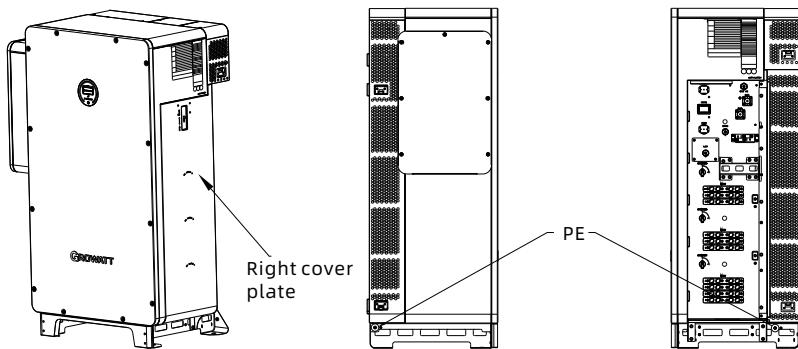

Fig 6.1 Ground points
4. The position of the ground points of the WIT 50-100K-US Storage/Hybrid Inverter is shown in fig 6.1. You can find the ground points after removing the right cover plate.
1. Open the right cover plate of the WIT inverter, the position of which is shown in Fig 6.1;
4. Open the cover plate on the right side of the inverter, the position of which is shown in Fig 6.1.